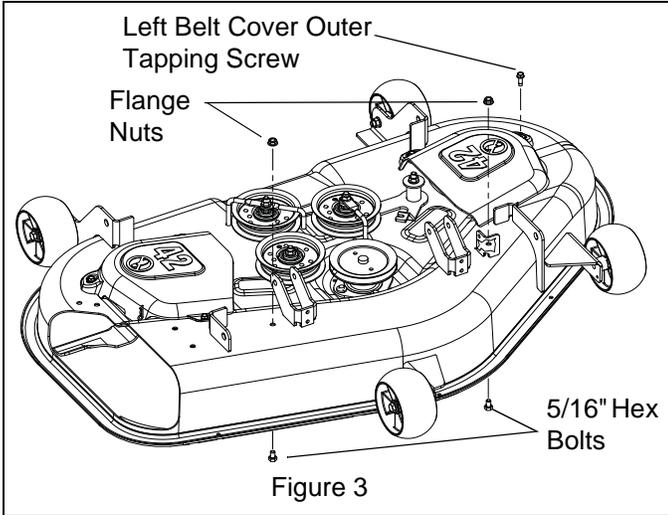

Figure 3
6. Remove two 5/16" hex bolts and locking top flange nuts from the top leading edge of the mower deck. Retain for future use with discharge chute or bagger. See Figure 3.
- Remove the outer 1/4 x 3/4" hex tapping screw from the left belt cover. Retain for future use with discharge chute or bagger. See Figure 3.